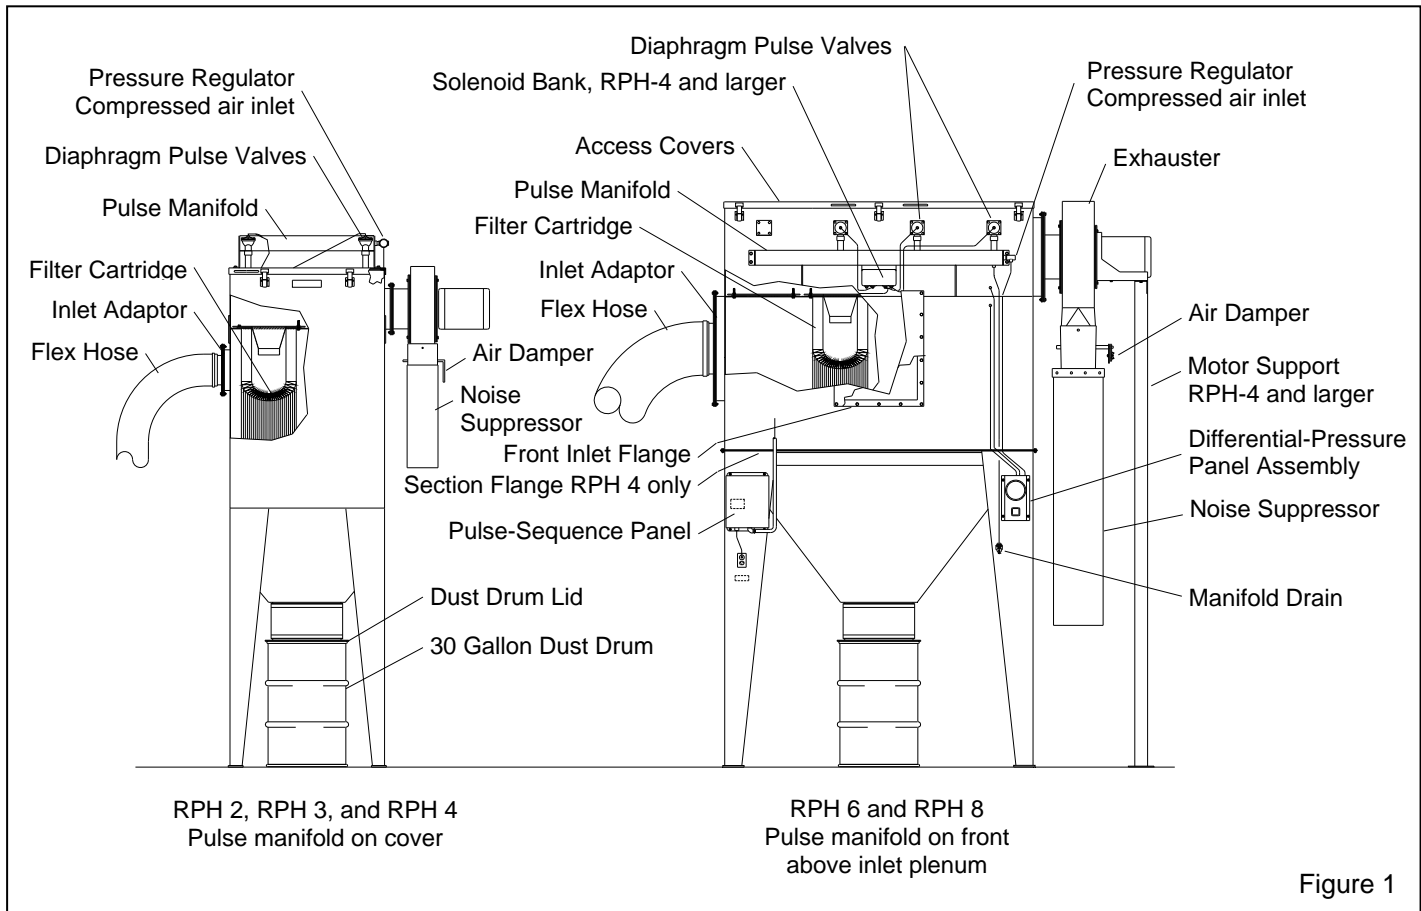

Figure 1
2.7.4 Some tubing may be disconnected for shipping purposes. Refer to the general arrangement in Figure 1 and the illustration of the differential-pressure indication panel in Figure 5 to confirm that all connections are made.